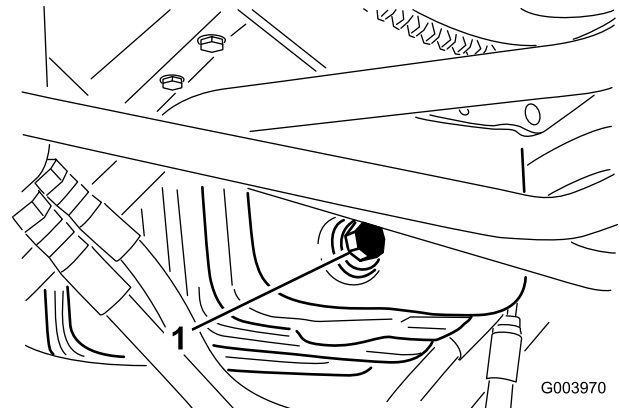

Figure 51
1. Remove the drain plug (Figure 51) and let the oil flow into a drain pan.